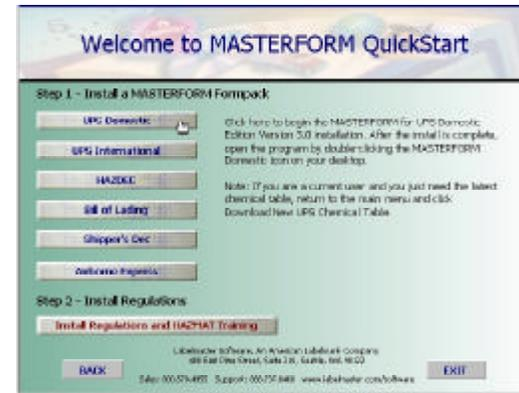

Figure 1: Click UPS Domestic on the QuickStart menu to begin the installation.
3. Click the **UPS Domestic** button under *Install a MASTERFORM Formpack* (see Figure 1). The MASTERFORM Installation Wizard will launch.